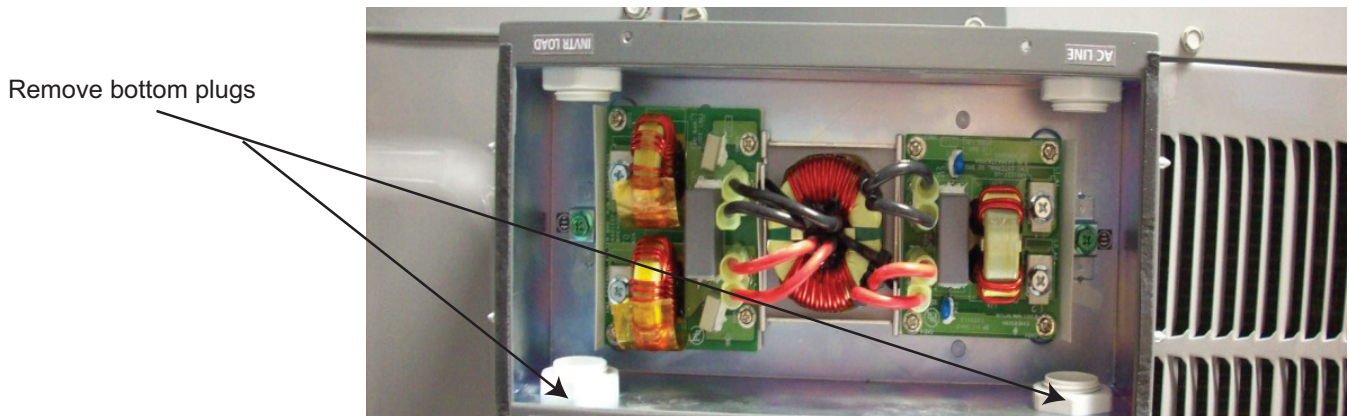

Fig. 2 - Right Side Mounting (filter box mounted on right side of control box)
5. If mounting filter box on the right side of control box (see Fig. 2):
6. If mounting filter box on the left side of control box (see Fig. 2):